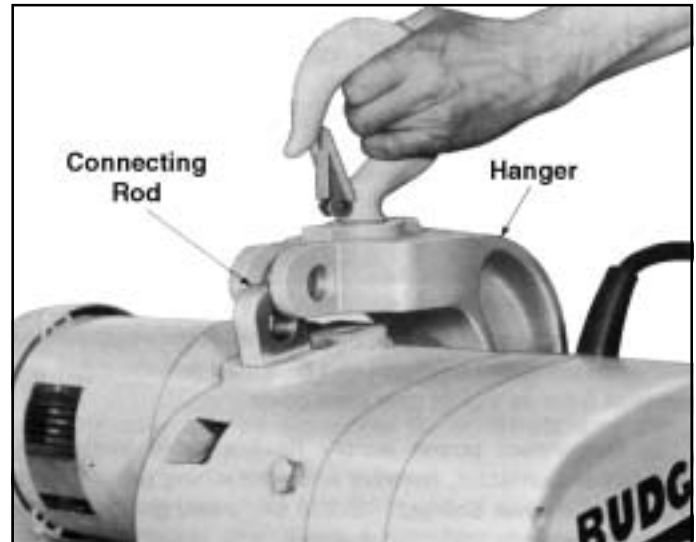
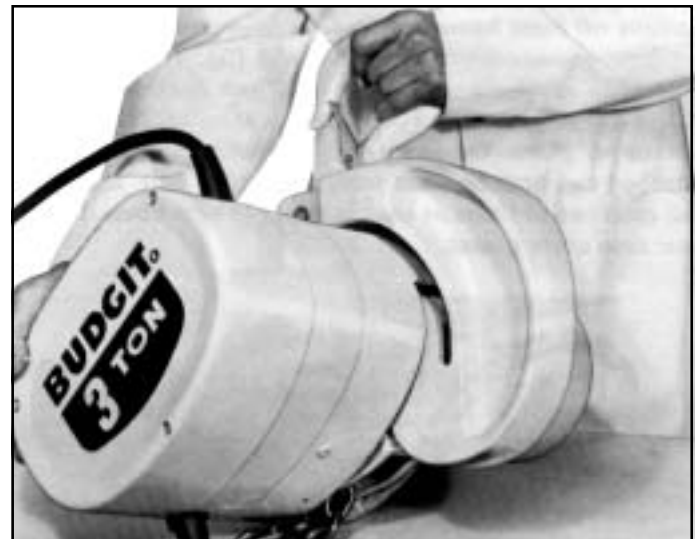
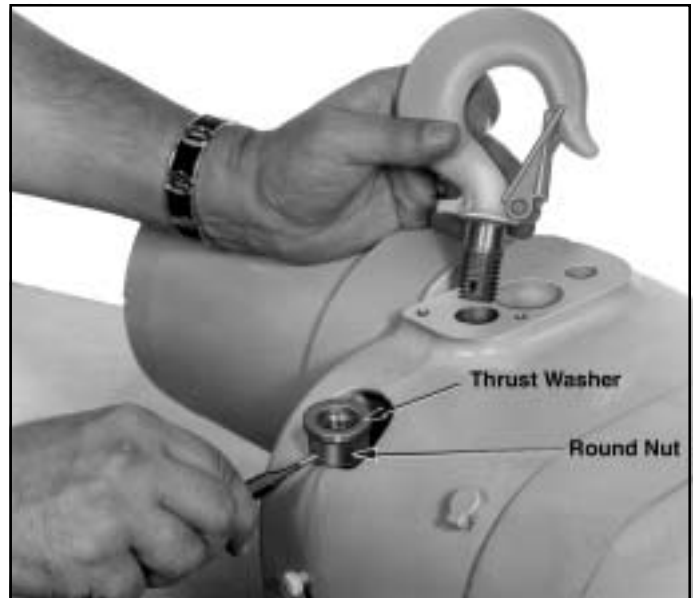

Figure 7-2. Ton Hanger Bracket Connection Pin Removed
Figure 7-3. Removing 3 Ton Hanger Bracket from Hoist Frame
Figure 7-18. Removing Upper Hook and Hook Nut from Hoist Frame (1/4 thru 1 Ton Models)
(4) To remove 3 ton hanger bracket from hoist, remove retaining ring and connecting rod pin (see fig. 7-2). Rotate hoist approximately 45° (see fig. 7-3) and hanger will slip free from hoist frame.
(1) On 1 /4 thru 1 ton models, drive pin from hook nut using drift punch and unscrew upper hook. Nut is reached thru access hole in side of hoist frame. See figure 7-18.
(3) On 3 ton models, remove retaining ring from connecting rod pin and push connecting rod pin through bracket and connecting rod, releasing hanger (see fig. 7-2). Raise hanger above hoist frame to provide access to hook nut. Rotate hook until grooved pin in nut is visible from end of hanger frame. Using a drift punch, drive grooved pin thru hook nut until it hits hanger pocket. Remove drift far enough to hold nut from turning and unscrew hook from nut. Thrust washer will fall free.
(4) To remove connecting rod (fig. 7-2) on 3 ton hoist, drive pin from rod nut using drift punch and unscrew connecting rod. Nut is reached thru access hole in side of hoist frame. (See fig. 7-18).